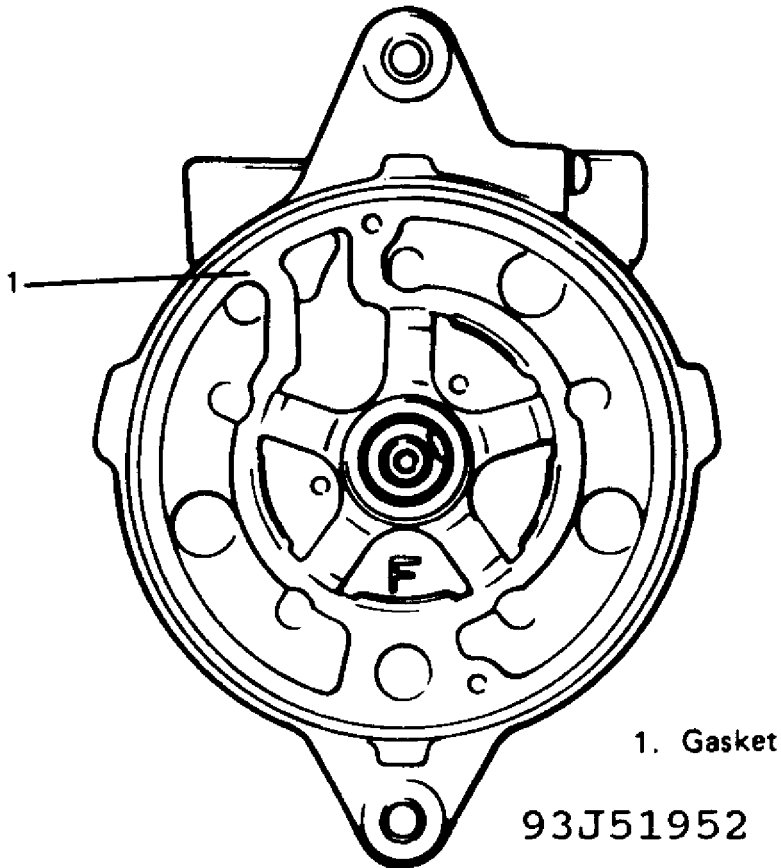

Fig. 28: Proper Gasket Placement on Front Valve Plate
- d. Lubricate gasket with compressor oil and install it to valve plate. See Fig. 28.